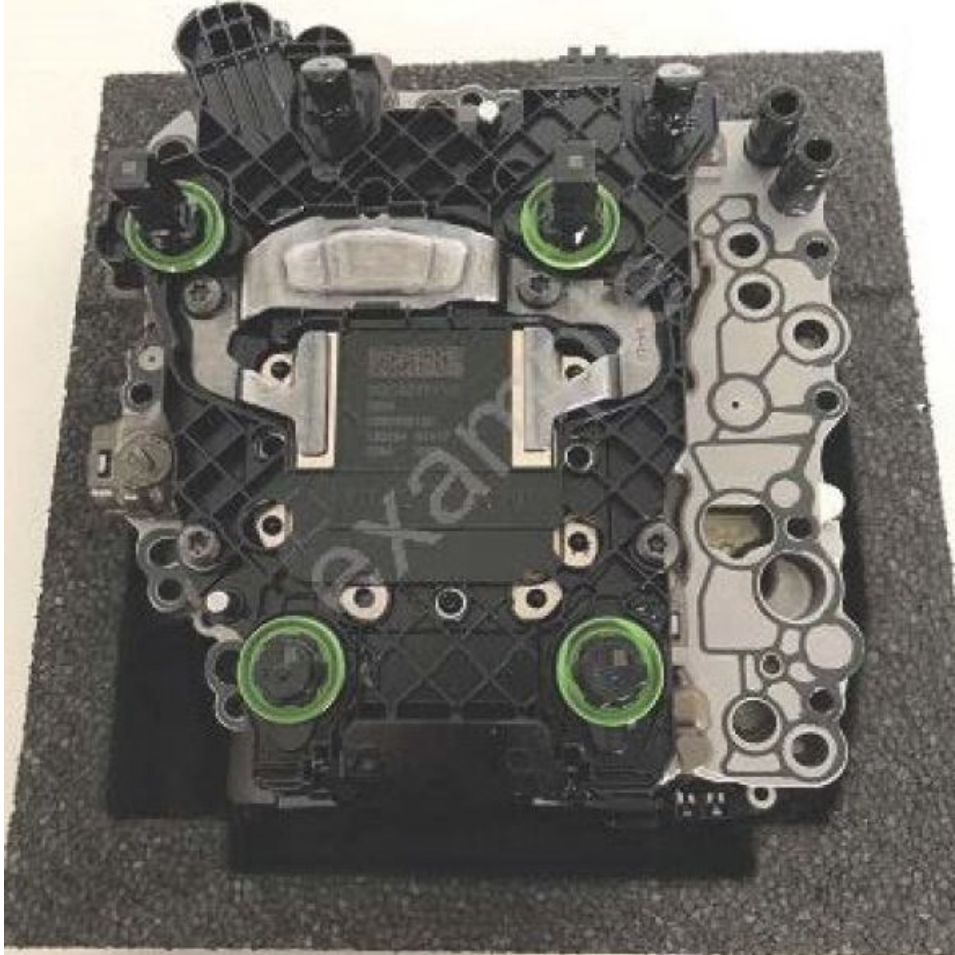

Figure 14. Mechatronic unit with the control unit in the assembly aide facing upwards.
18. Take the mechatronic unit out of the assembly aide, turn the mechatronic unit over, and place it back in the assembly aid (Figure 14). When doing so, take care not to damage the valve contacts and the sensors.